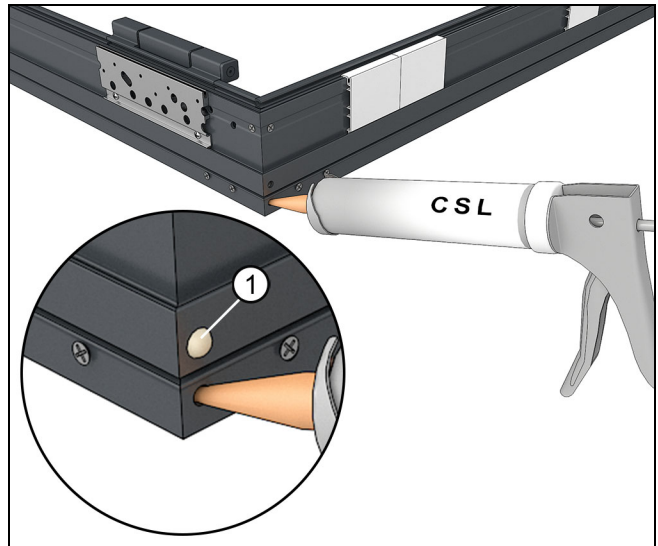

Figure 21 Inject CSL 343 sealant in head jamb corner.
9. At the head jamb inject the provided sealant into the exterior hole until sealant comes out of the adjacent hole. See Figure 21.